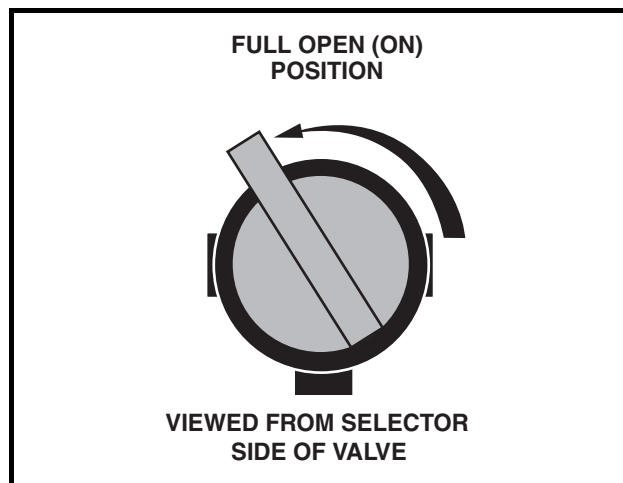
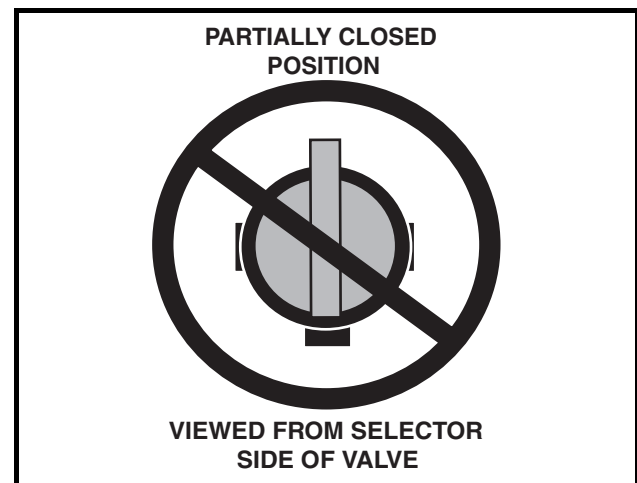

Figure 3-4 Fuel Shut-Off Valve – Open Position
Figure 3-5 Incorrect Fuel Shut-off Valve Setting
3. Completely open the fuel shut-off valve (**Figure 3-4, Page 3-4**). Make sure the valve is fully open. A partially closed fuel shut-off valve (**Figure 3-5, Page 3-4**) combined with the use of the choke can result in a fouled spark plug and engine failure.